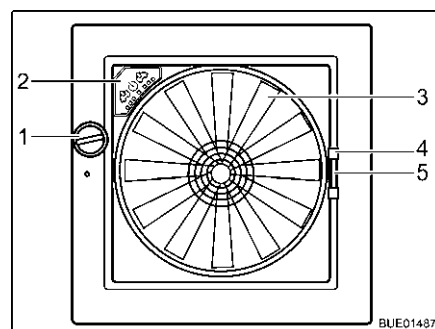

Fig. 115 Skylight Omni-Vent
Opening: ■ Turn the knob (Fig. 115,1) until the desired opening angle is reached.
Closing: ■ Turn the knob (Fig. 115,1) until the skylight is fully closed.
Closing: ■ Using the handle (Fig. 115,4) pull the insect screen across to the other side of the frame.
- Press together the handle (Fig. 115,5) of the shade.
Fan If the skylight is open, the interior can be ventilated with the 6-speed fan (Fig. 115,3). The fan is operated via the operating panel (Fig. 115,2).